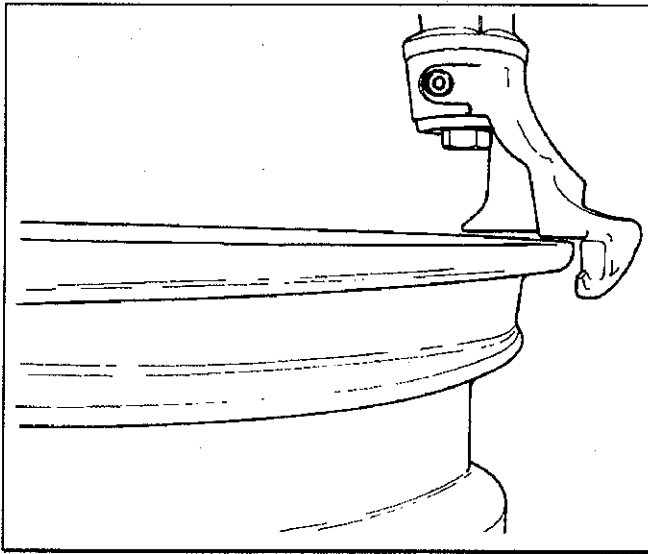

Fig.17
E. Position the mount/demount head in contact with rim edge and lock it into place: the tool automatically moves away from the rim edge vertically. Turn the adjustment knob until the mount/demount head clears from the rim flange about 1/16" (2mm); this is necessary to avoid any rim damage (Fig.17).